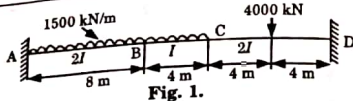

Fig. 1.
a. A continuous beam ABCD is load as shown in Fig. 1. During loading support B sinks by 1 cm. Determine the support moments. Take $I = 1600 \text{ cm}^4$; $E = 2 \times 10^5 \text{ N/mm}^2$. Use moment distribution method.